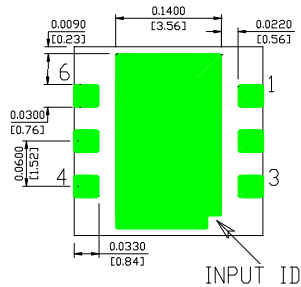

Figure 1 Bottom side of WHM25-1525AE
Figure 1 shows the bottom side (foot print) of one product example, WHM25-1525AE, 2.2 ~2.6 GHz low noise amplifier. The center paddle serves as the ground pad. Pin 1 is the RF input, Pin 2 and Pin 4 for +5V DC power supply. These two pins are connected internally inside the module. Pin 3 and Pin 6 are non-connection (NC). Pin 5 is the RF output.